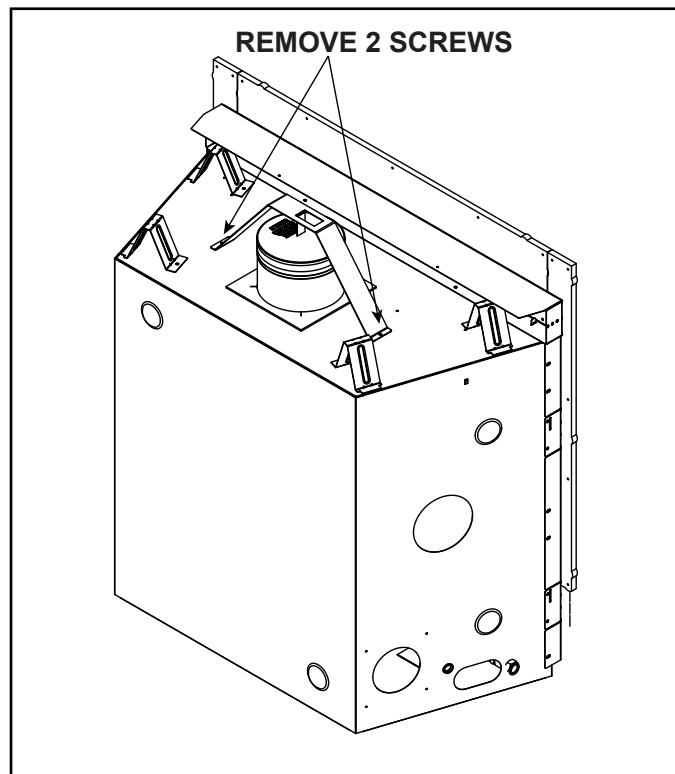

Figure 6.3 JADE32IN - Shipping Support in Shipping Position
1. Remove two screws and remove shipping support. See Figure 6.3.